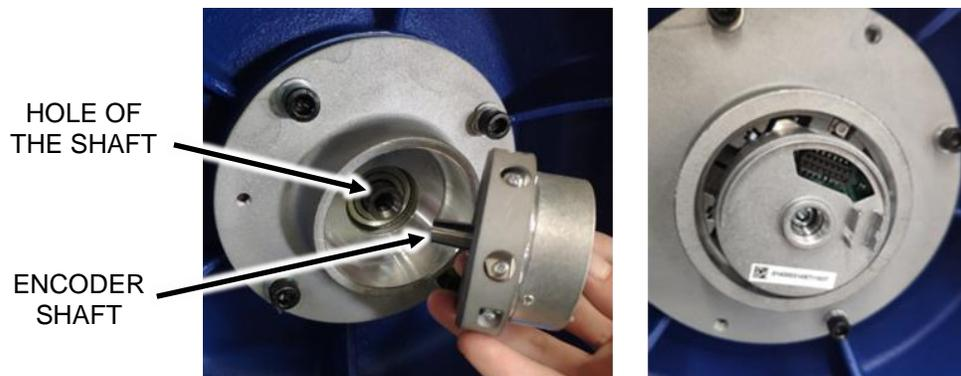

Figure 28
2. There is a taper in the front of the encoder shaft, put the encoder shaft into the hole of the shaft. Figure 28.